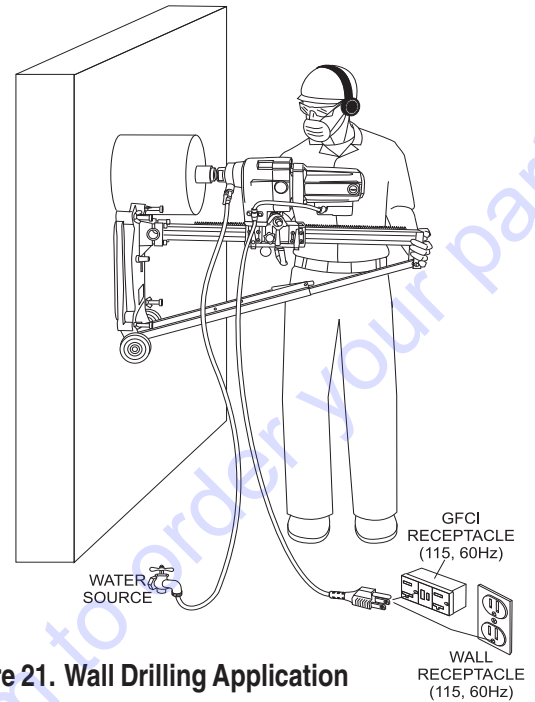

Figure 21. Wall Drilling Application
4. Hold the cradle handle, then slightly loosen the cradle lock knob and slowly rotate clockwise the raise/lower handle to lower the bit into the work surface (Figures 21 and 22), applying steady even pressure.